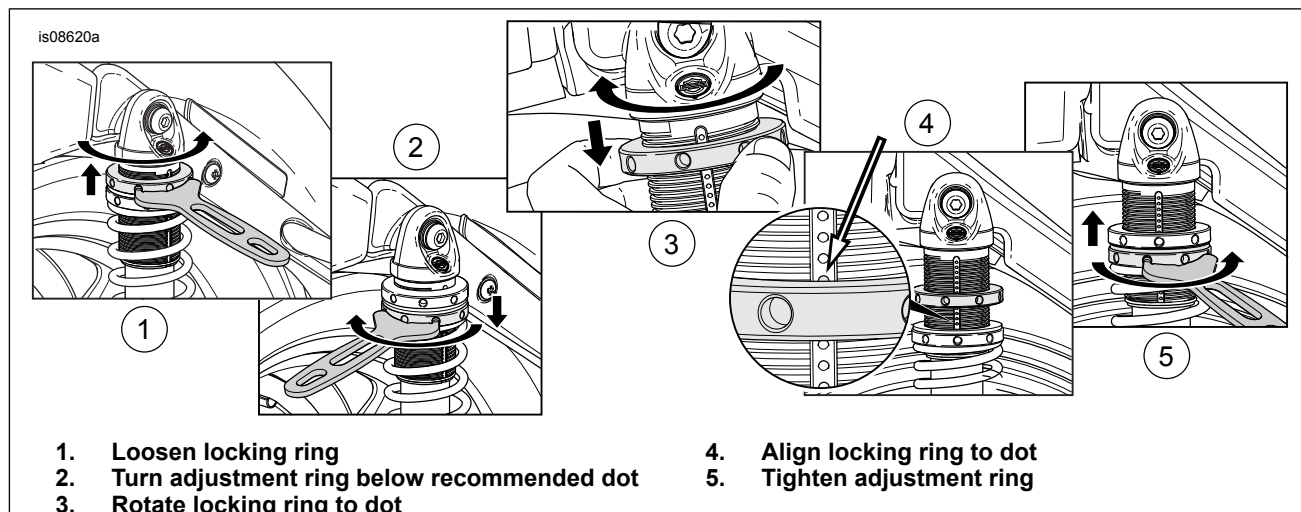

Figure 3. Preload Adjustment
3. See Figure 3. Use the spanner wrench to turn the upper locking ring counterclockwise (1) to unlock the ring: